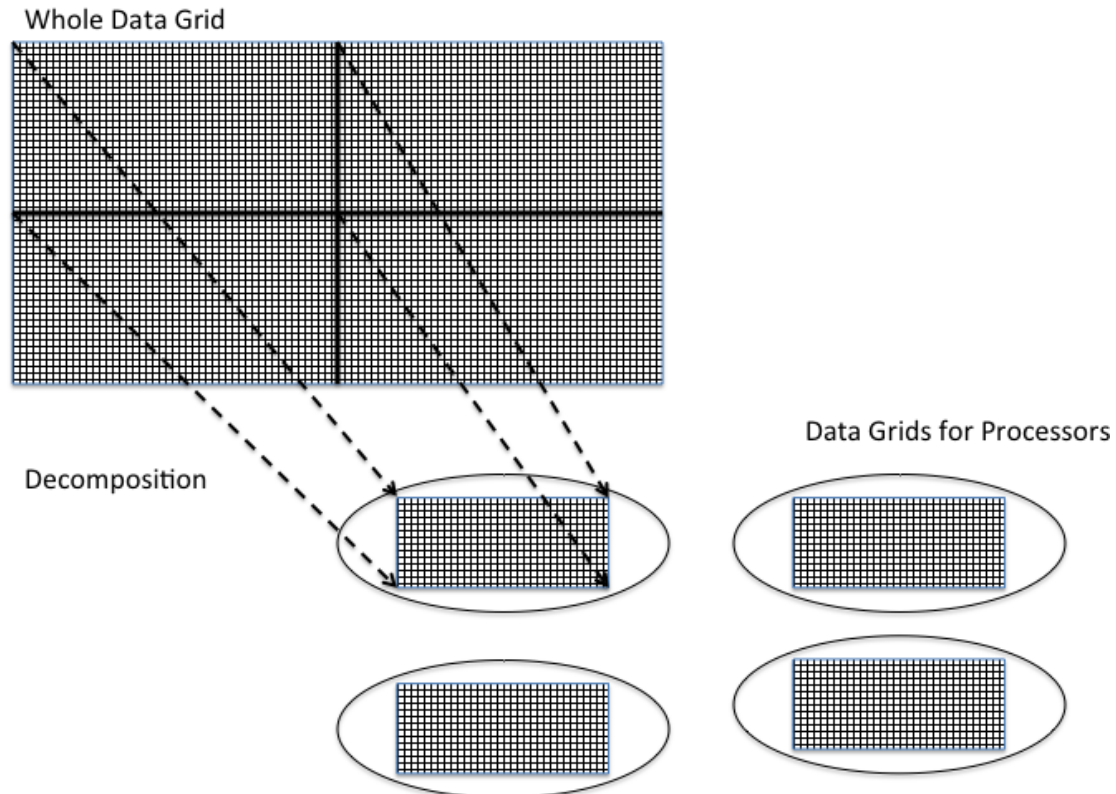

Figure 2 - Breaking up the problem through domain decomposition
Both of these stages involve calculating the value at each grid point by combining it with the value of its four nearest neighbours. Thus the same amount of work is involved in calculating each grid point, making it ideal for the regular **domain decomposition** approach. Figure 2 shows how a two-dimensional grid can be broken up into smaller grids to be handled by individual processes.
In the parallel versions of the code provided for this exercise we have only decomposed the problem in one dimension, namely the y-dimension (Fortran) or x-dimension (C). This means that the problem is sliced up into a series of rectangular strips. Although for a real problem the domain would probably be split up in both dimensions as in Figure 2, splitting across a single dimension makes programming and understanding the code significantly easier. Each process only needs to communicate with a maximum of two neighbours, swapping halo data up and down (or left and right).